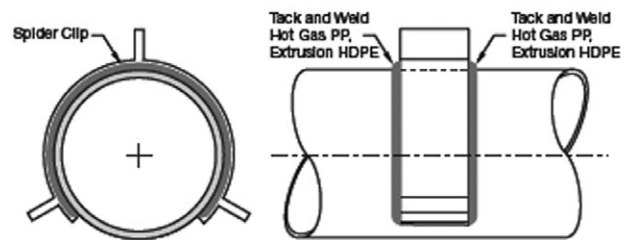

Figure 21 Spider clip or centralizer attached to carrier pipe
Place the molded or fabricated support spider clips or centralizers, with tops aligned, on the carrier pipe, and then hot gas (PP) or extrusion weld (HDPE) the clips into place as shown in Figure 21. Be sure to use the required amount of clips on the full lengths of the carrier pipe. Proper spacing should be determined by the manufacturer's recommendations.